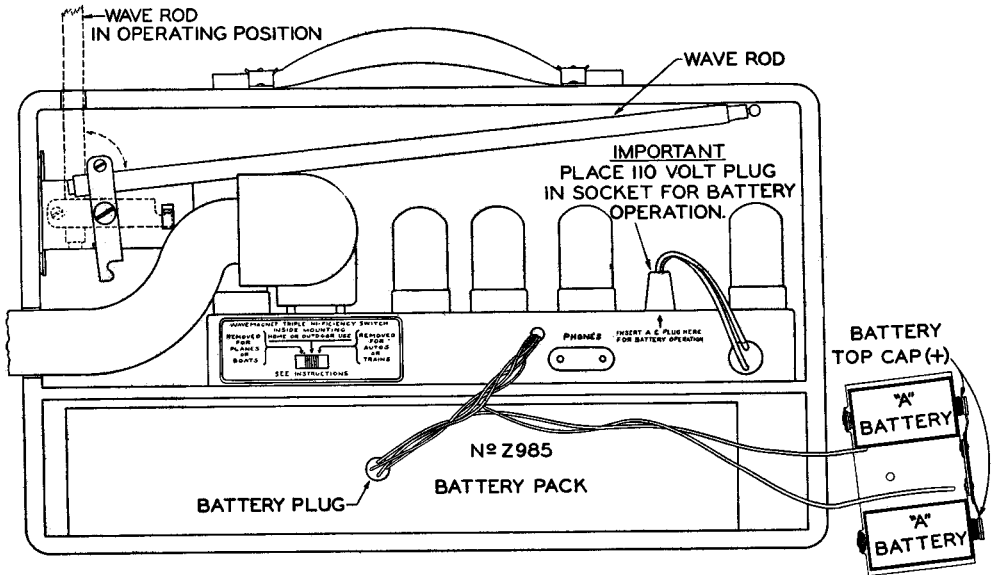

Fig. 1 — Rear View of Receiver
the cabinet, lower right corner, in the position as shown in Figure 1. The larger battery may then be placed in its compartment with the power socket facing the back cover. Place the battery cable plug into the battery pack as shown in Figure 1. Replace the wooden block in its original position.
**IMPORTANT:** The 110 volt plug must be inserted in the changeover socket (see Fig. 1) to operate the receiver on its self-contained dry batteries; this automatically operates a safety switch. The excess 110 volt line cord must be stored above the tubes at the rear right side of the case. The back-cover is then closed and the receiver is ready for operation.
For broadcast reception in remote or isolated areas, or for out-of-town stations, unfold the WAVEROD (See Fig. 1) from the cabinet and extend it to its full length. This automatically connects the WAVEROD, thereby increasing the sensitivity of the receiver.
This receiver incorporates an ultra high efficiency duplex WAVEMAGNET, the characteristics of which may be preserved regardless of the position or location in which it is used by means of the "Triple Hi-Ficiency Switch," located on the rear of the chassis (see Fig. 1).